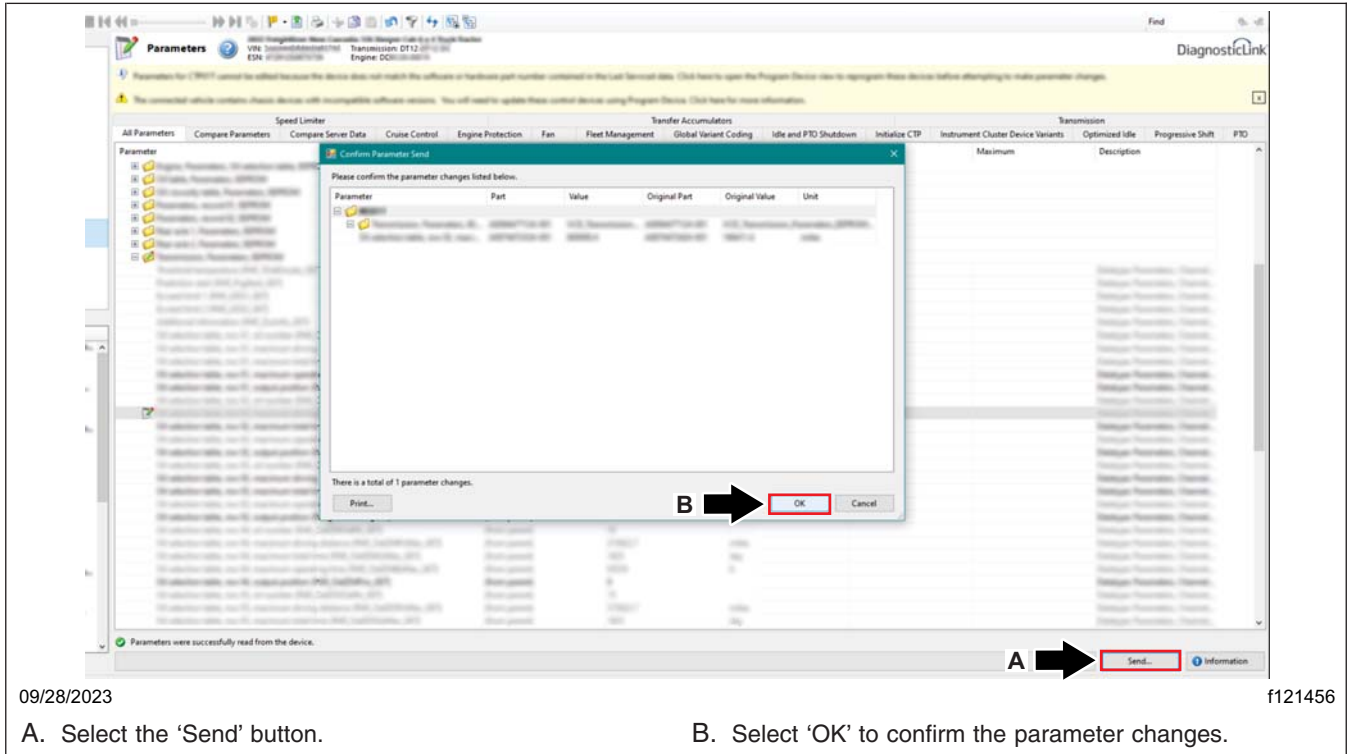

Fig. 4, Writing the Parameter Changes to the Vehicle
12. Select the 'Send' button to write the parameter changes to the XMC02T ECU in the vehicle. A window opens asking to confirm the parameter changes. Select 'OK.' See Fig. 4.